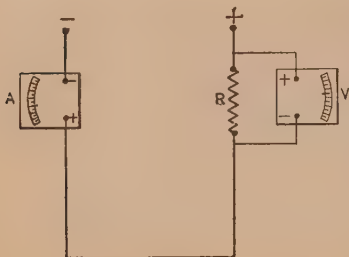

FIG. 17.
**Problem 46.** In Fig. 17 the resistance of  $R$  is 19.2 ohms. The ammeter ( $A$ ) reads 4.13 amperes. What should the voltmeter ( $V$ ) read?